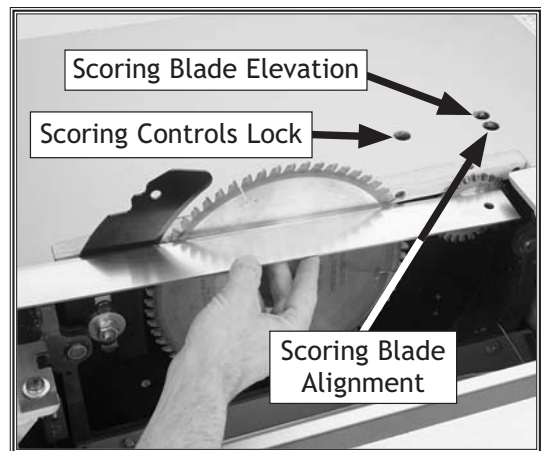

Figure 38. Access holes for scoring blade adjustment controls.
- The scoring blade alignment can be changed by adjusting the set screws accessible through the table top (see **Figure 38** or refer to **Page 37**).